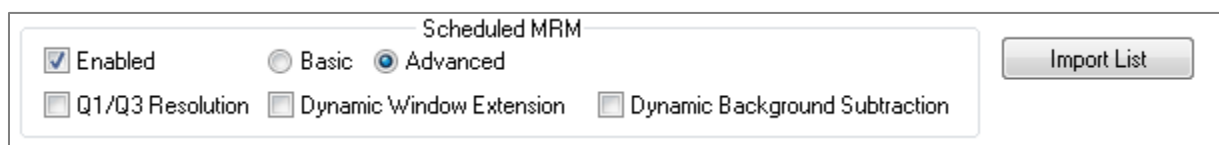

Figure B-3: Select the Scheduled MRM Algorithm – Enhanced mode.
2. Select the Scheduled MRM Algorithm by checking the **Enable** box shown in **Figure B.3**. Use the Advanced Mode.
4. Select Basic as shown in Figure B-3 and save the method as *LIPID_sMRMPro_1.dam*.